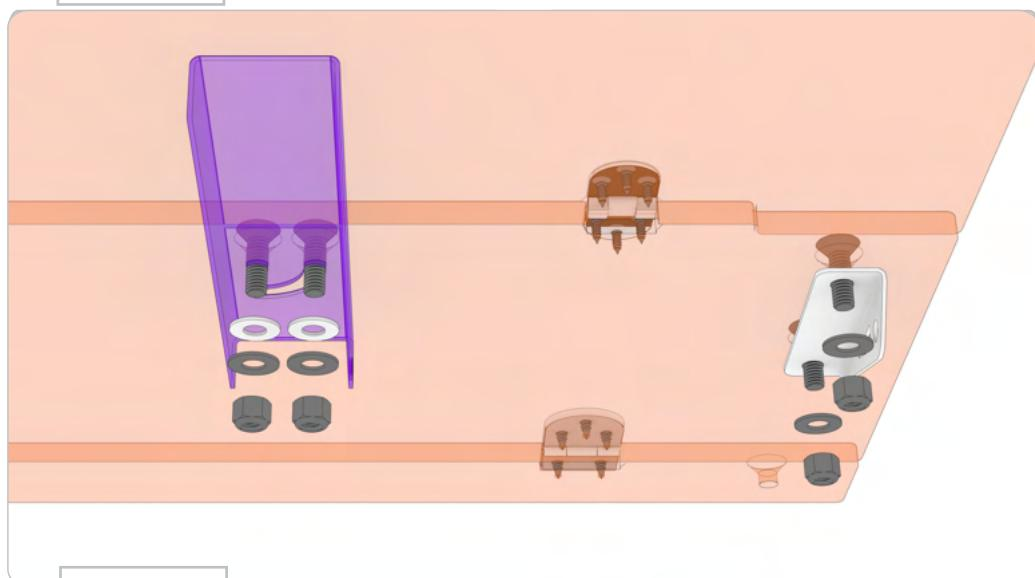

FIG 17
2.6 Attach Strut and Support Brackets to Table Top: Fasten Left and Right Strut Brackets and Left and Right Support Brackets to Folding Table Top using (2ea) 3/8-16 x 1.25 Hex Drive Flat Head Screws, 3/8" Plastic Washers, Flat Washers and Nylon Locknuts (in that order, **FIG 17**).